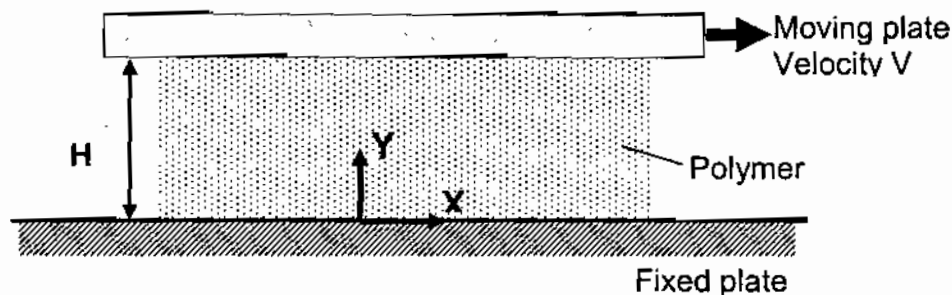

Figure 6
- 6 (a) Define the terms: shear viscosity and extensional viscosity. Give three examples of shearing and extensional flows in polymer processing. (6)
- (b) A sliding-plate viscometer, as shown in Figure 6 below, is used to measure the viscosity of a polymer melt.